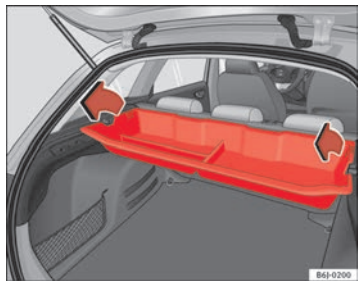

Fig. 91 Removing storage compartment
- Remove the rear shelf and pull the storage compartment upwards holding it by the edges ⇒ fig. 91.